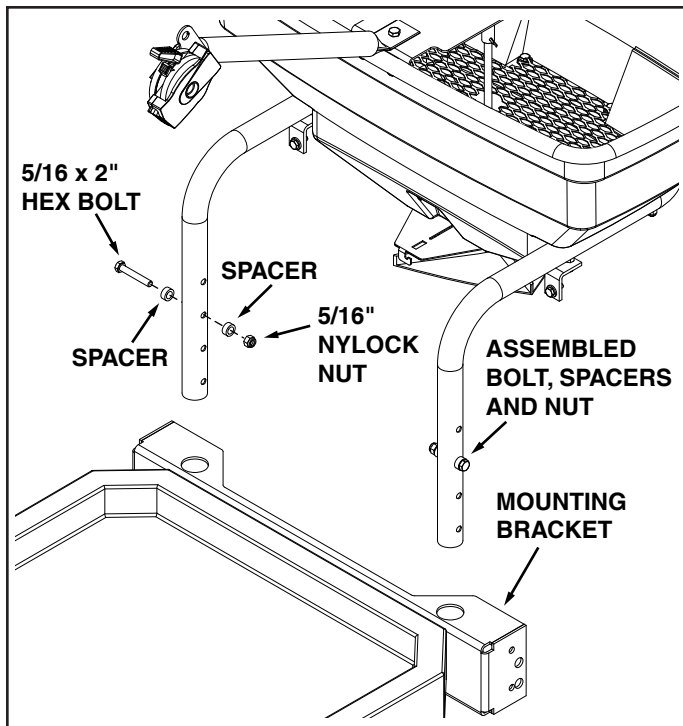

FIGURE 9
16. Assemble two 5/16 x 2" hex bolts, four spacers and two 5/16" nylock nuts to either the top or next to top holes in the hopper tubes. Slide the hopper tubes into the mounting bracket. See figure 9.